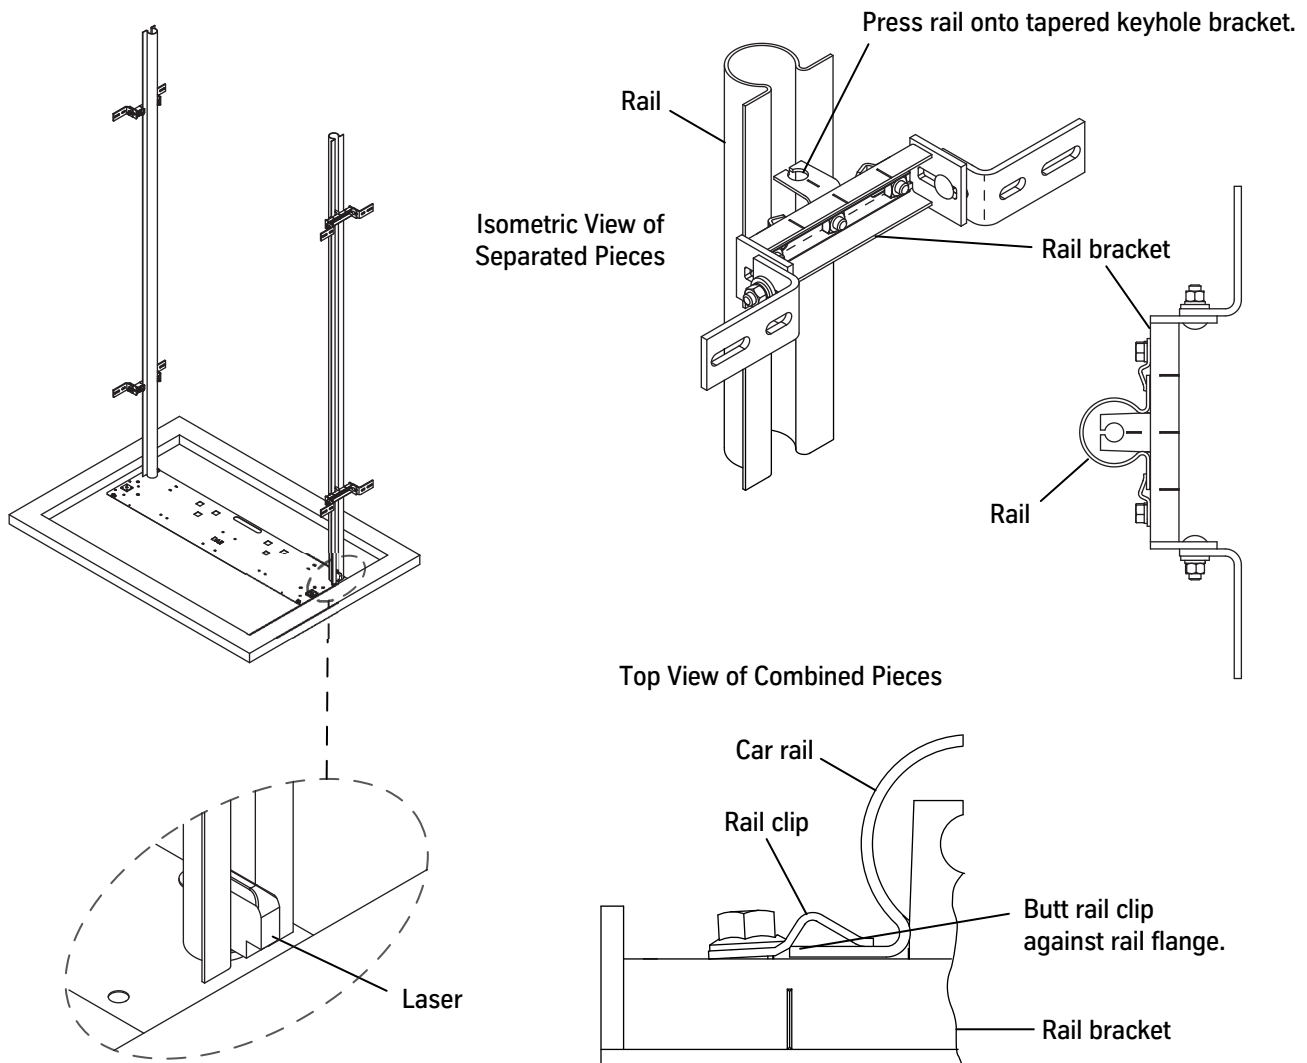

Figure 27 - Car Rail Installation
2. Press the rail onto the tapered keyhole brackets. See Figure 27.